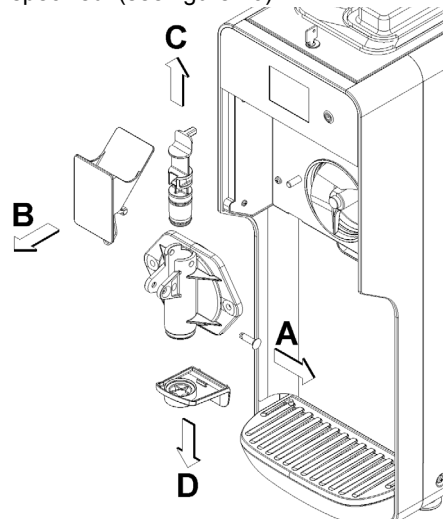

figure 20
sequence specified. (see figure 20)
- 4 Reassemble the tap assembly in the reverse order to that illustrated in Figure 20 and reposition it in its seat.